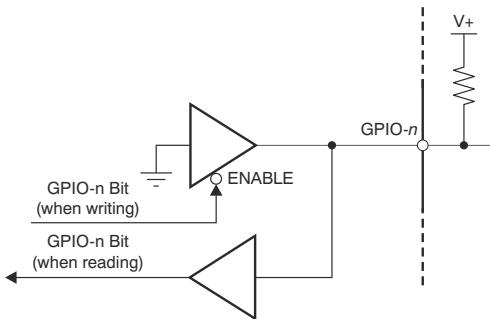

図 7-17. GPIO Pins
The device has eight GPIO pins. The GPIO-0, GPIO-1, GPIO-2 and GPIO-3 pins are dedicated to general, bidirectional, digital I/O signals. GPIO-4, GPIO-5, GPIO-6, and GPIO-7 are dual-function pins and can be programmed as either bidirectional digital I/O pins or remote temperature sensors D1 and D2. When D1 or D2 is disabled, the pins function as GPIOs. These pins can receive an input or produce an output. When the GPIO-*n* pin functions as an output, the pin has an open-drain and the status is determined by the corresponding GPIO-*n* bit of the GPIO register. The output state is high impedance when the GPIO-*n* bit is set to 1, and is logic low when the GPIO-*n* bit is cleared (0). A 10-kΩ pullup resistor is required when using the GPIO-*n* pin as an output; see 図 7-17. Do not tie the dual-function pins GPIO-4, GPIO-5, GPIO-6, and GPIO-7 to a pullup voltage that exceeds the AV_{DD} supply. The dedicated GPIO-0, GPIO-1, GPIO-2, and GPIO-3 pins are only restricted by the absolute maximum voltage. To use the GPIO-*n* pin as an input, the corresponding GPIO-*n* bits in the GPIO register must be set to 1. When the GPIO-*n* pin functions as an input, the digital value on the pin is acquired by reading the corresponding GPIO-*n* bit. After a power-on reset or any forced hardware or software reset, all GPIO-*n* bits are set to 1, and the GPIO-*n* pin goes to a high-impedance state.